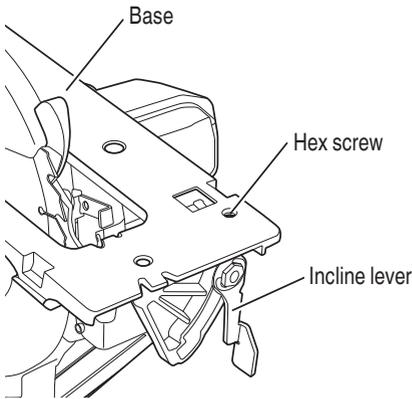

Fig. 24
3. 90° (0°) Bevel adjustment (Fig. 24)